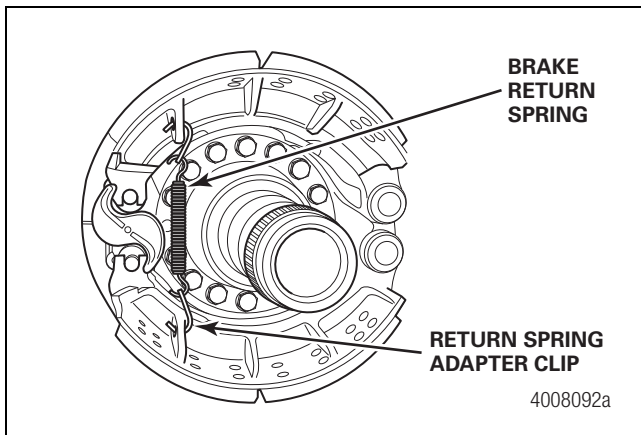

Figure 17.4
- 6. Install the brake return spring and clips. Figure 17.4.